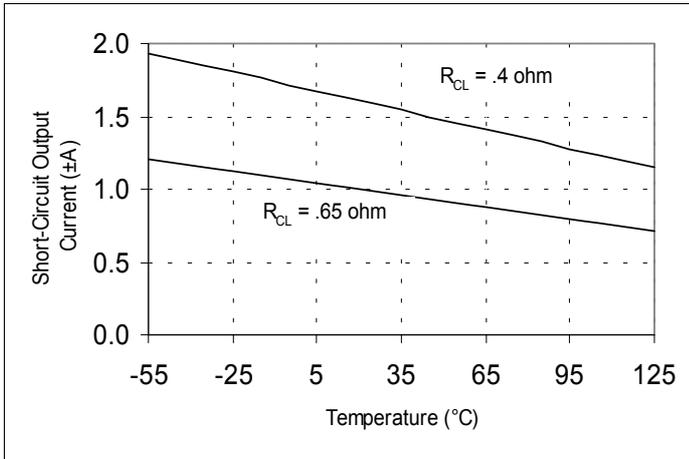

Figure 1. Typical Short-Circuit Output Current vs. Current Limiting Resistors ( $\pm R_{CL}$ )
- It is recommended that external current limiting resistors ( $\pm R_{CL} \geq 0.4\ \Omega$ ) be used to ensure that 2.0 A is not exceeded. See Figures 1, 2 and 4 for  $R_{CL}$  application information.